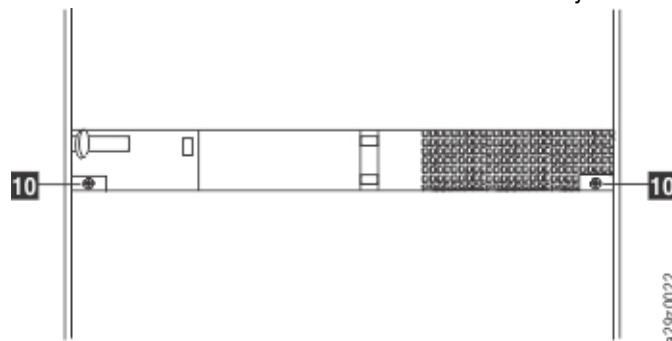

Figure 16. Securing the rear of the library in the rack
9. Secure the rear of the library to the rack with a round-head screw **10** on each rear bracket (Figure 16 on page 24). Tighten the other rear bracket screws to secure the library to the rack.